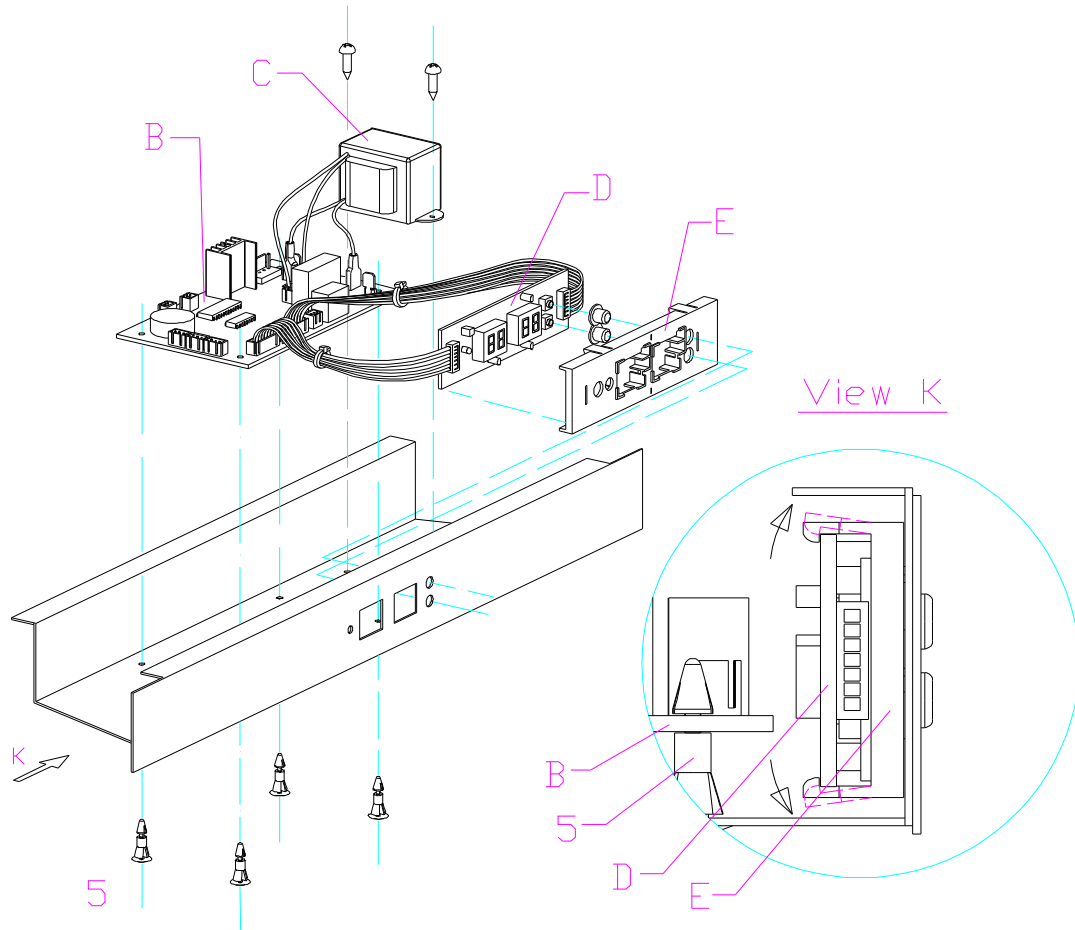
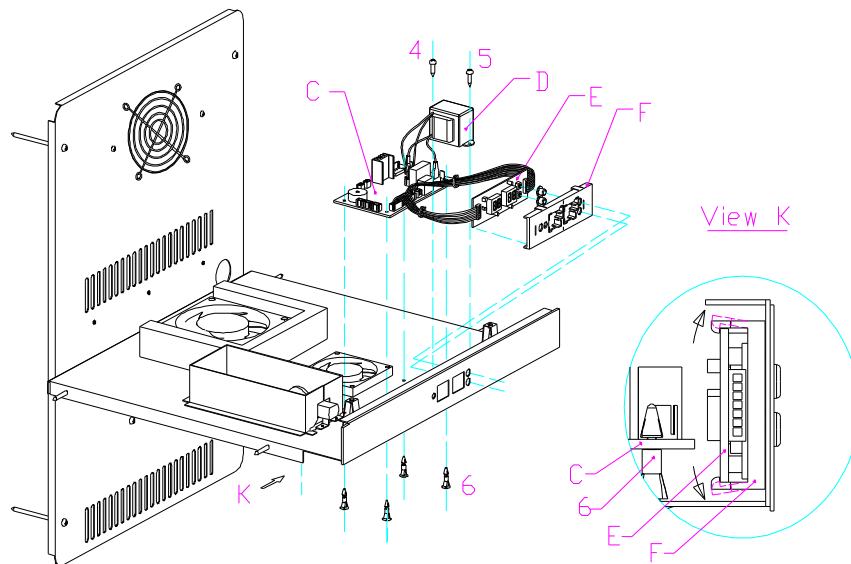

Fig.32
Fig.33
This malfunction is caused by the display panel's default, replace with the same model's display panel. (Fig.32 & Fig.33)
- b. Unplug all the connectors from the control panel, and press the 4 studs (5) one by one, and up draw the control panel, and take off the PCB board (B) . Replace it with the same model's PCB board; (Fig.32)
- c. Remove the the screw of the two transformer and take off the transformer (C) for replacement(Fig.32 ).
Pull the four 4 display cover fasteners on display board cover (E) as per arrowhead direction, and then remove the display board (D) and its two connectors from both sides. Replace the display board. See (Fig.32)
- b. Unplug all the connector, press the 4 studs (6) one by one. Updraw the PCB board, and draw off the PCB board(C), , replace it with the same model's PCB board. ( Fig.33 )
- c. Remove two fixing screw of the transformer, take off the tranformer (D) for replacement. ( Fig.33 )
Pull the four 4 fasteners of display board cover (F) as per arrowhead direction, and then remove the display board (E) and its two connectors from both sides. Replace the display board. See (Fig.33)